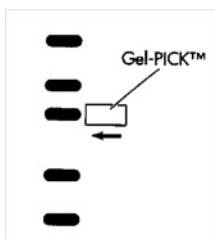

Fig. 2A
1. Each *Gel-PICK*[™] has two open ends. **Always use the cutting end of the *Gel-PICK*[™] for picking a DNA band from the gel.** Position the cutting end of the *Gel-PICK*[™] on the gel adjacent to the band of interest to ensure that it covers the width of the band (see Fig 2A)